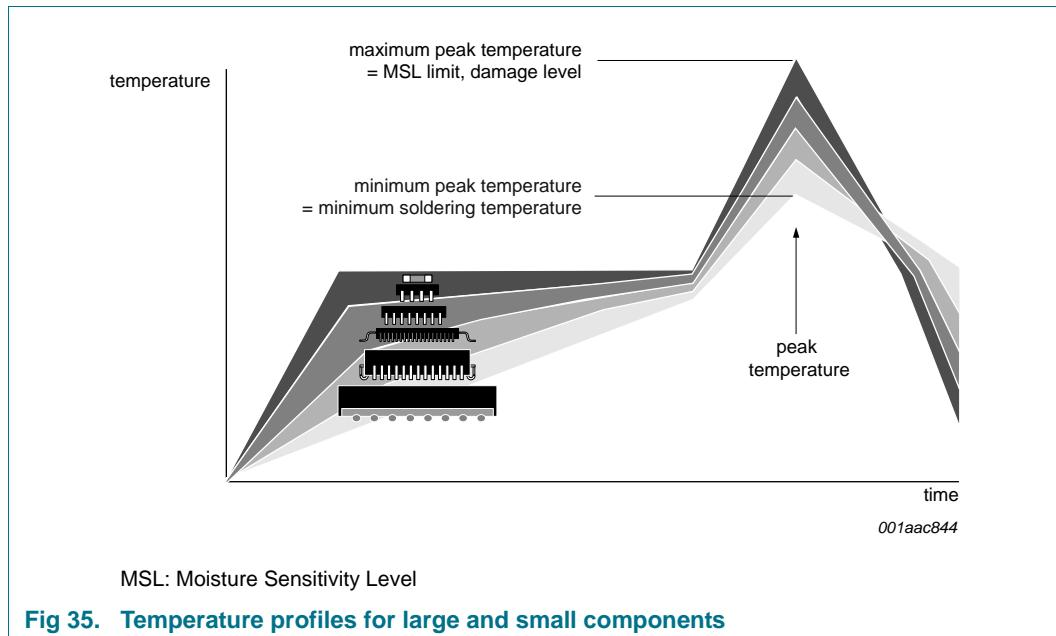

Fig 35. Temperature profiles for large and small components
- Lead-free versus SnPb soldering; note that a lead-free reflow process usually leads to higher minimum peak temperatures (see Figure 35) than a PbSn process, thus reducing the process window
Studies have shown that small packages reach higher temperatures during reflow soldering, see Figure 35.